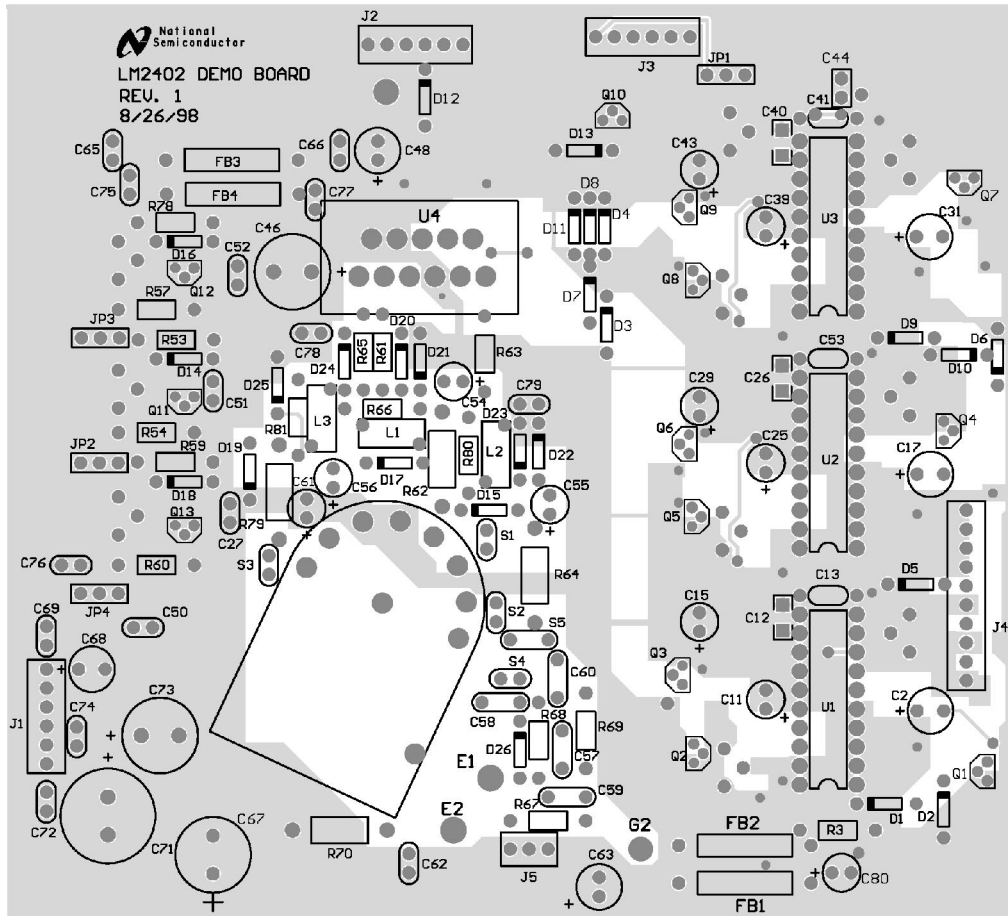

FIGURE 11. PCB Top Layer
Figures 11, 12 show routing and component placement on the NSC LM2202/2412 demonstration board. The schematic of the board is shown in *Figure 10*. This board provides a good example of a layout that can be used as a guide for future layouts. Note the location of the following components:
- *C46 and C77* - V_{CC} bypass capacitors, near LM2412 and V_{CC} clamp diodes. Very important for arc protection. (*Figure 11*)